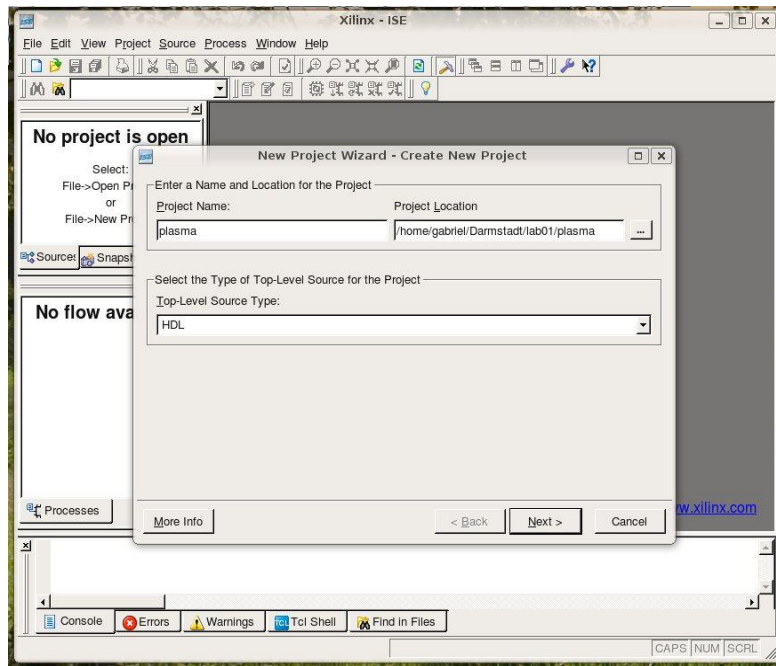

Figure 1 : Creating a new project
1. Launch Xilinx ISE Tool and go to Menu File->New Project (Figure 1).